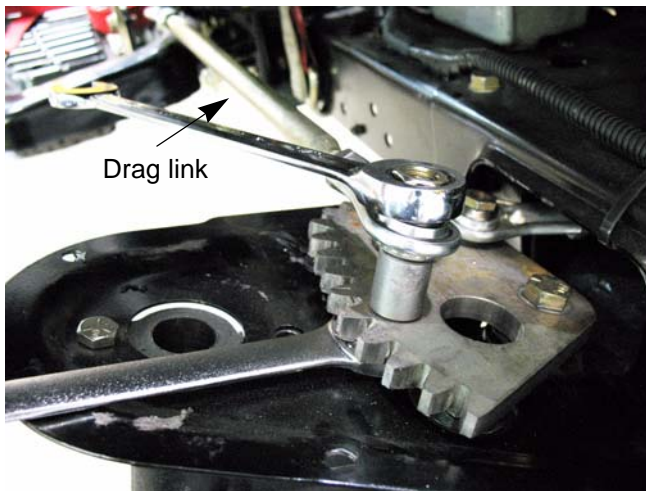

Figure 6B.88
3. Remove and discard the nut holding the drag link to the inboard steering gear using two 9/16" wrenches (one of them should be a slim-line wrench). See Figure 6B.88.